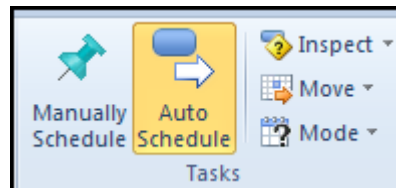

Figure 4-9: Schedule Buttons
- i. Select the task you wish to break the link for and click the break link button in the schedule group of the task ribbon (figure 4-9)